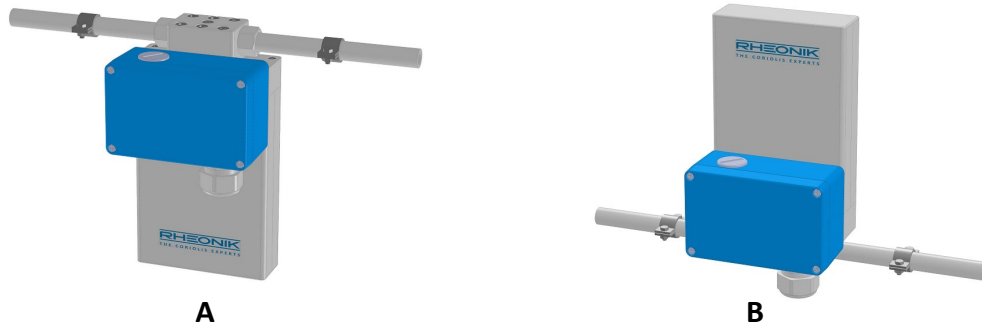

Figure 3: Installation positions for liquid (A) and liquid applications with solid particles/gas applications (B)
- *Liquid applications:* For liquid measurements, the RHM sensor should be installed at a low point in the pipe system with its measurement tubes pointing downwards as this will prevent gas bubbles collecting in the sensor. The presence of gas bubbles can reduce the performance of the sensor for both mass flow and density. See the recommended orientation in Figure 3 (A).
- *Liquid applications with solid particles in the fluid:* If there is a risk that the liquid contains (heavy) solid particles, the RHM sensor should be installed at a high point in the pipe system with its measuring loops pointing upwards to avoid the collection of the particles in the sensor. See the recommended orientation in Figure 3 (B).
- *Gas applications:* For gas measurements, the RHM sensor should be installed at a high point in the pipe system with its measuring loops pointing upwards to avoid condensation or other liquids collecting in the sensor. See the recommended orientation in Figure 3 (B).